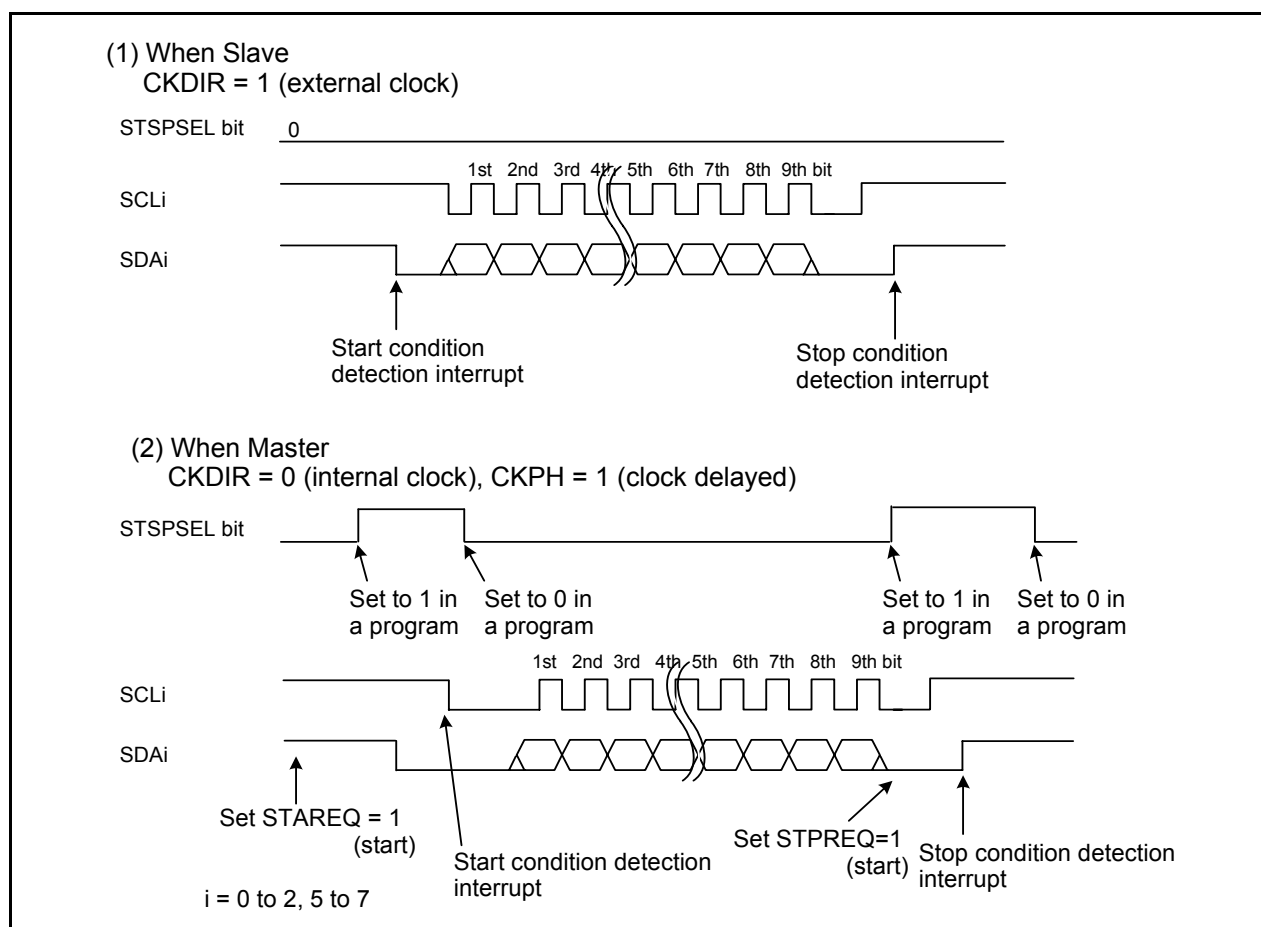

Figure 17.27 STSPSEL Bit Functions
5. See Figure 17.27 “STSPSEL Bit Functions”.